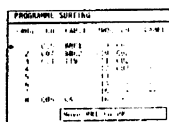

Fig. 16.
- 5 Using Δ or ∇ , select the programme position to which you want to move the channel of the programme position selected in step 4 and press OK. Now the programme positions have been sorted. (See Fig. 16.)